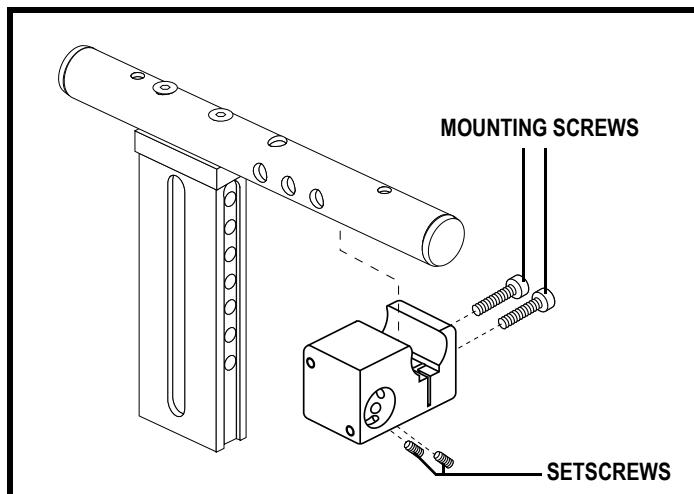

Figure 14. Controller Mounting Block
You can move the controller in toward or out away from the armrest, or change the position of the controller for either left-hand or right-hand use. See **figure 14**.
4. Loosen the mounting screws in the controller mounting block. See **figure 14**.